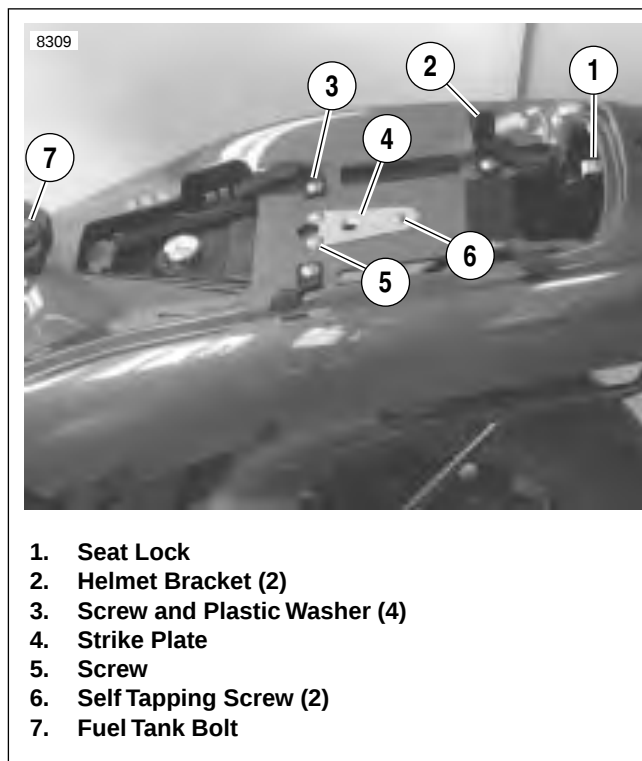

Figure 2-101. Tail Section Hardware
- a. Place ignition key in saddlebag lock. Turn key 1/4 turn.
2. See Figure 2-101. Remove seat.
- a. Place ignition key in seat lock (1). Turn key 1/4 turn.
3. Remove fuel tank bolt (7).
3. See Figure 2-101. Loosely install strike plate (4) using three screws. Both self tapping screws (6) fit in forward holes of strike plate.
- a. Loosely install two short screws with plastic washers (4) in the forward mounting holes.
- b. Place a helmet bracket (2) over a long screw (3). Place plastic washer under helmet bracket. Loosely install as an assembly in the rear mounting holes.